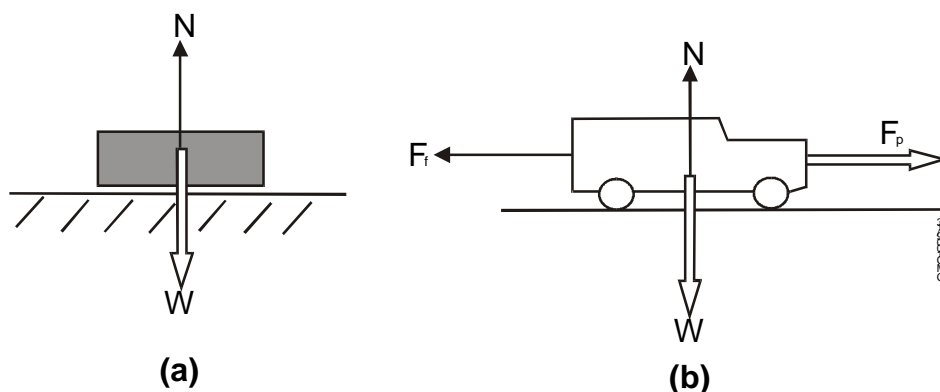

Figure 3 – Newton's 1st law
15. In figure 3(a), a block is placed on a flat surface. Application of Newton's first law tells us that for the block to remain where it is, there can be no external force acting. Here the weight of the block (W) must be equal in size and opposite in direction to the “reaction force” (N) provided by the supporting surface and so the object remains at rest.
17. In figure 3(b), the vehicle is travelling with uniform motion (steady speed or velocity). Applying Newton's first law we have the weight (mg) cancelled by a reaction force (N) from the road surface. In addition, we can say that the propulsive force produced by the engine F_p must be cancelled by the friction force F_f . Hence with no overall external force acting the vehicle is subject to Newton's first law and has uniform motion.